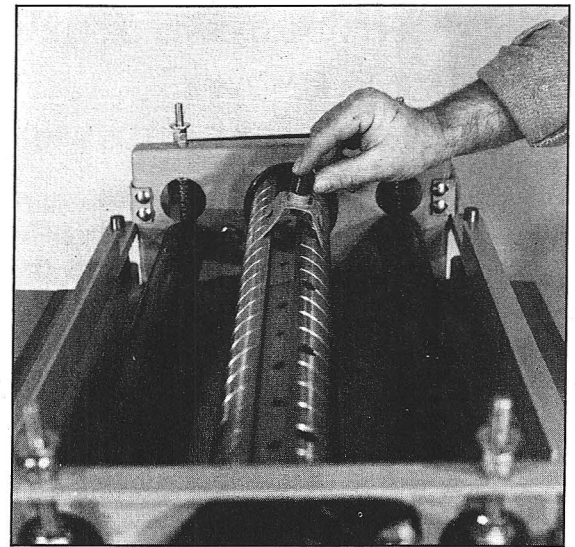

Fig. 13
6. After all blades are installed, check their height. If the height is not correct, use the jackscrews to raise or lower the knives. Raising (turning it counter-clockwise) the jackscrews raises the knife. (fig. 13)